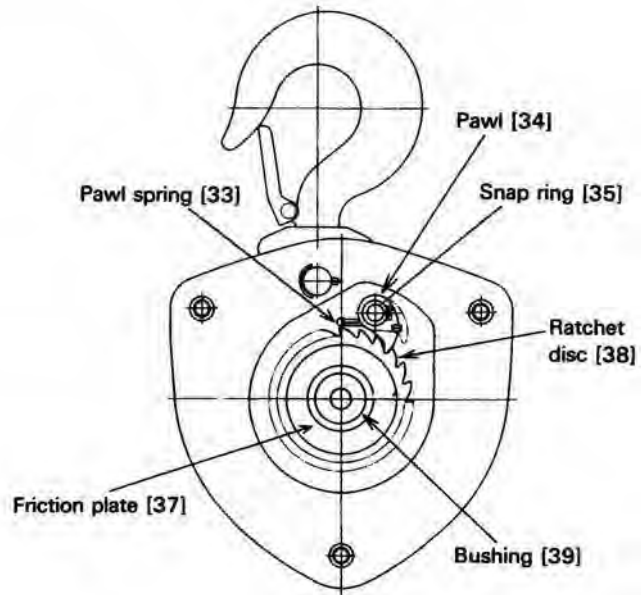

Figure 6-9 Pawl & Brake Assembly
- 15)** Apply machine oil to the pawl pin (in side plate A [11]) and join the pawl spring A [33], and B [33] and the pawl [34] respectively to it. Fix them with a snap ring [35]. See figure 6-9.
- 17)** Wipe out any dirt on the friction disc [36], friction plates [37] and both sides of the ratchet disc [38] and check if the oil of the bushing [39] (bushing with oil in it) is adequate. Then place the friction plate, bushing, ratchet disc and friction plate respectively on the friction disc. (Make sure that the ratchet disc and the pawl mesh properly). See figure 6-9.